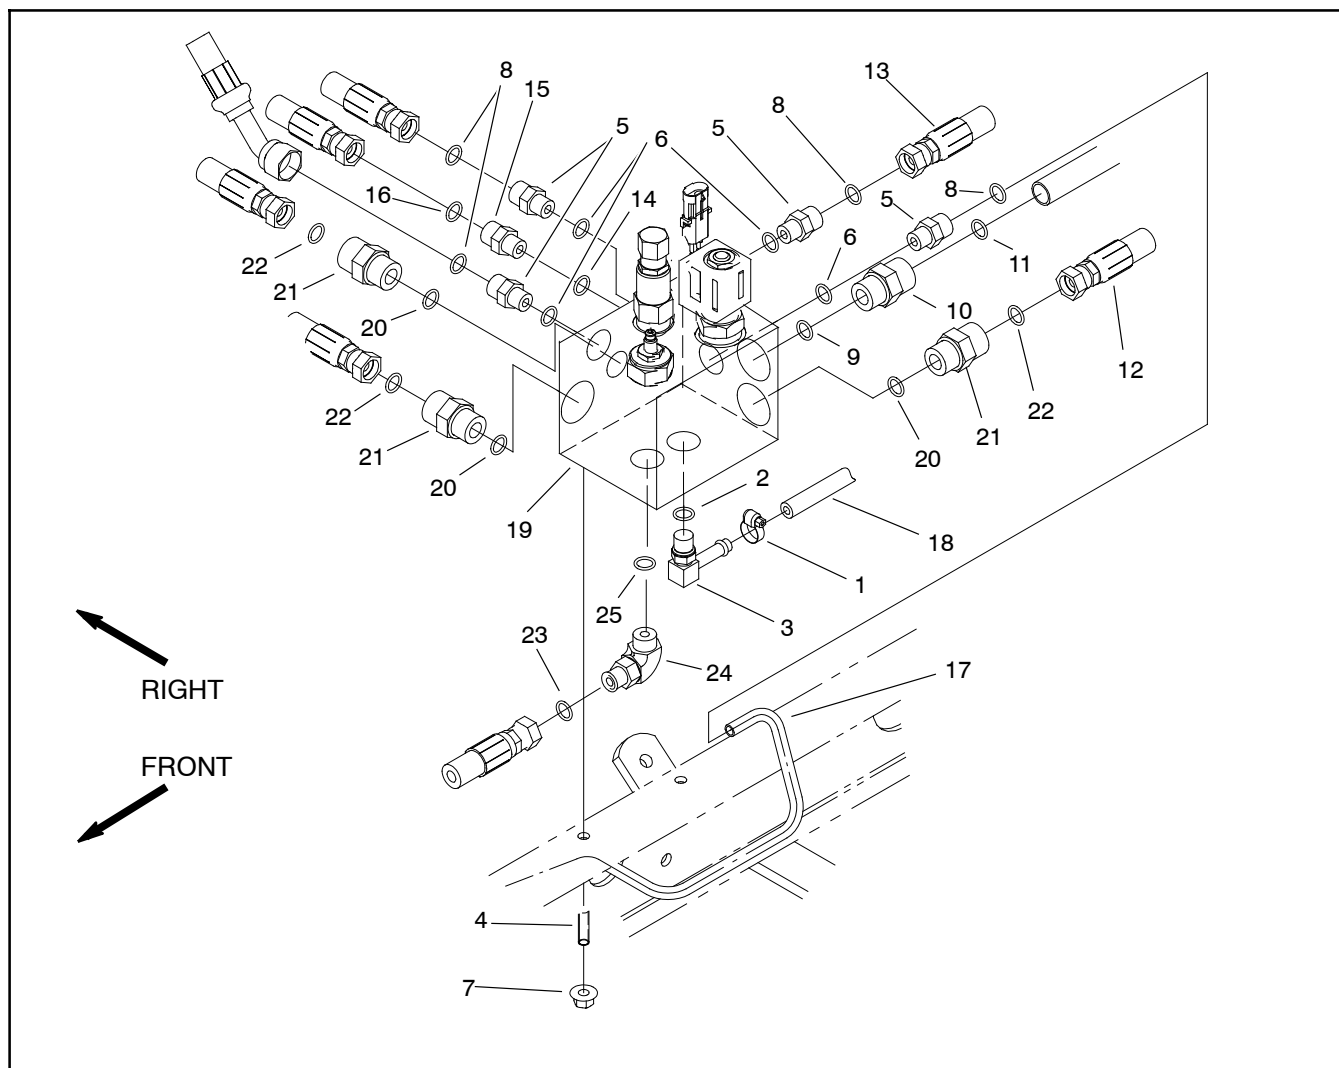

Figure 91
Removal (Fig. 91)
3. Remove hydraulic manifold from the machine using Figure 91 as guide.
Installation (Fig. 91)
2. Install hydraulic manifold to the frame using Figure 91 as guide.